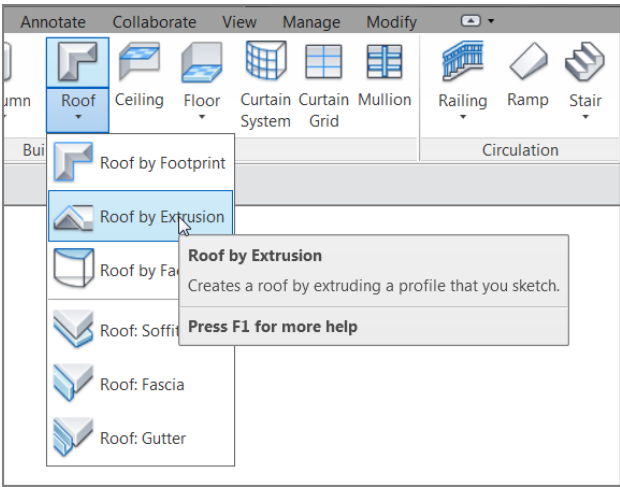

FIGURE 7.49: The Roof > Roof By Extrusion command
- 1. On the Architecture tab, choose Roof > Roof By Extrusion, as shown in Figure 7.49.